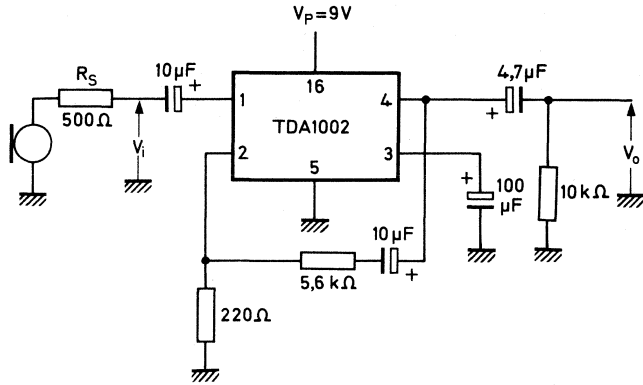

Fig. 1
1) Measured in Fig. 1 on page 6.